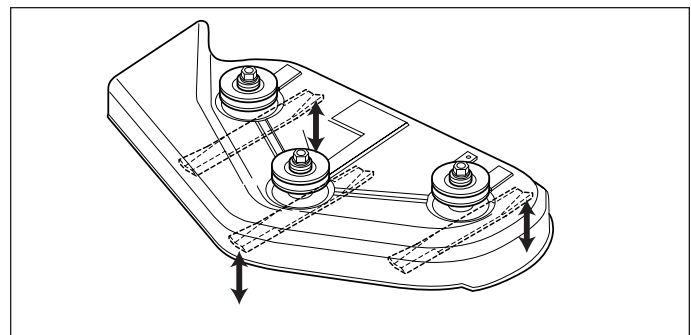

Figure 21. Orient Blades Front-to-Back
6. Arrange the blades so they face front-to-back (Figure 21).